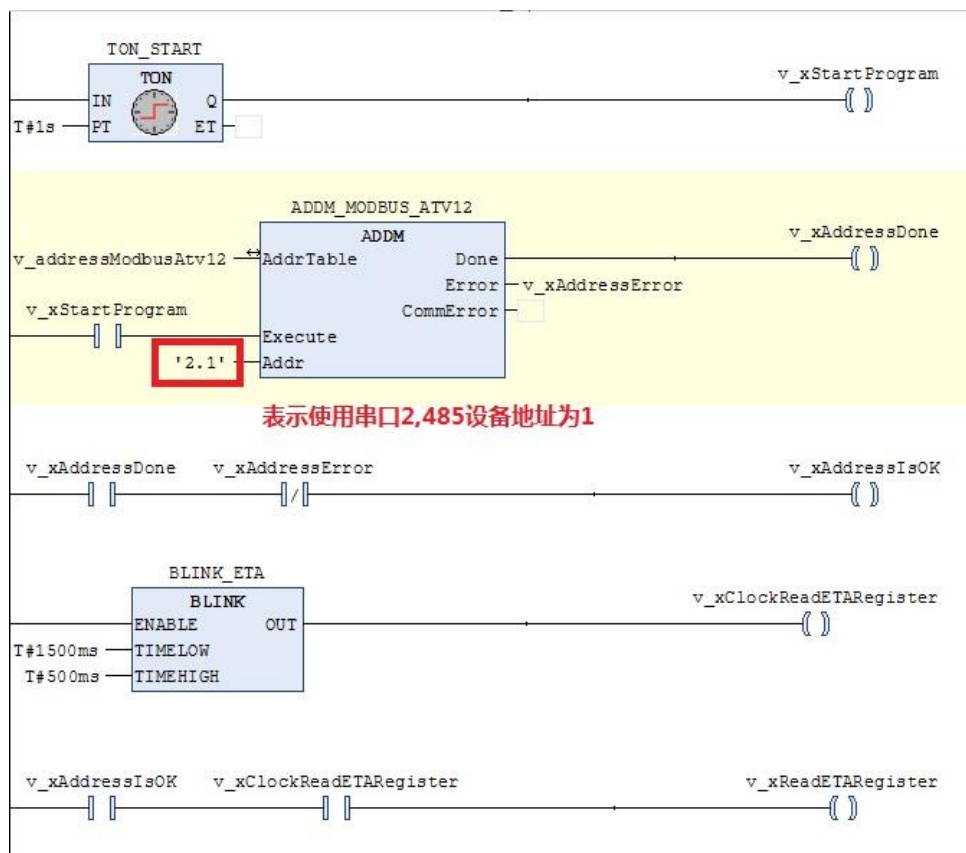

Figure F4-4
5.Program (LD):
①Initialize and define the port and address, as shown in Figure F4-4: